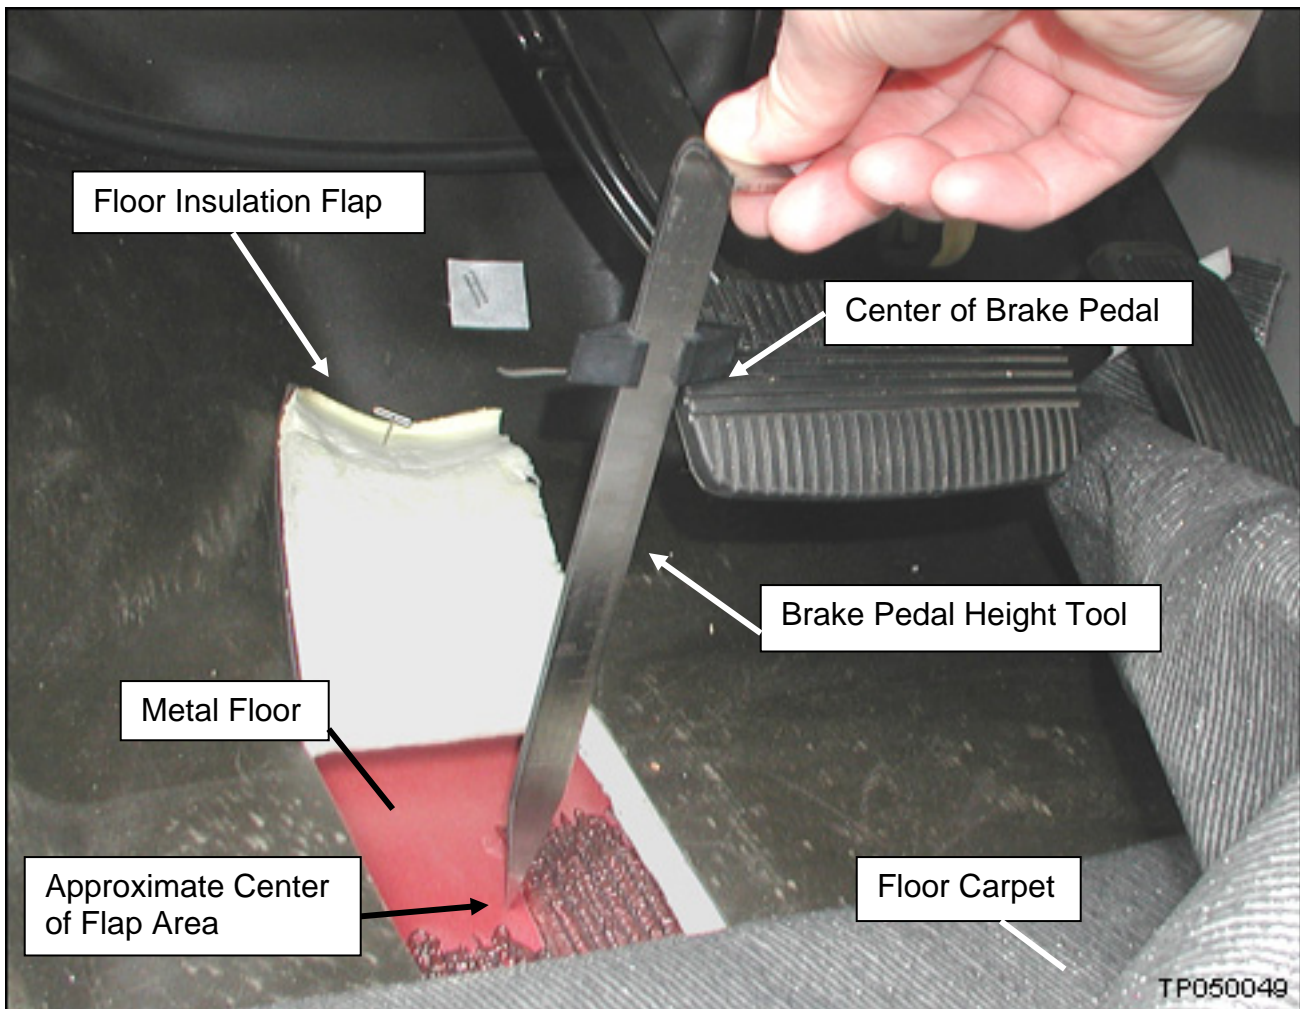

Figure 1
2. Pull the carpet down and fold back the rubber insulation flap (see Figure 1).
- Position the Brake Pedal Height Tool as shown in Figure 1.